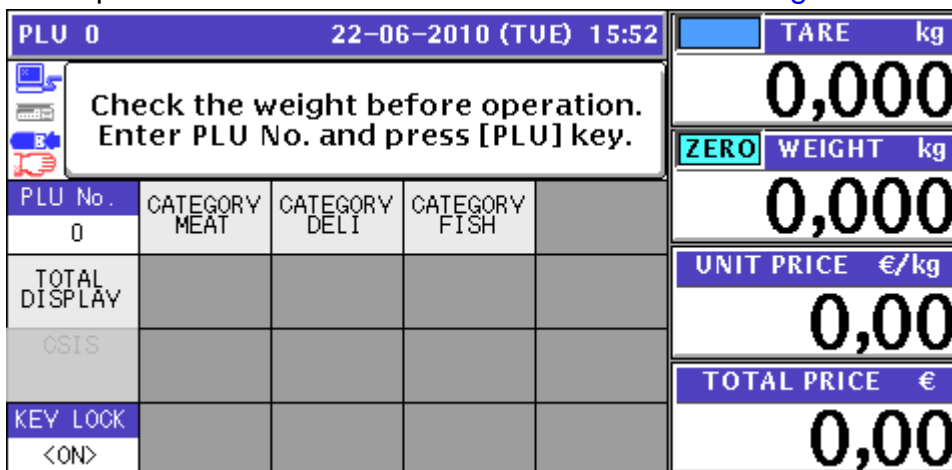

Figure 47. Normal Startup Screen Following Firmware Upgrade
- y. When the scale reboots the upper display bar will be blue indicating a normal start up from the main CPU board's Flash ROM. See Figure 47.